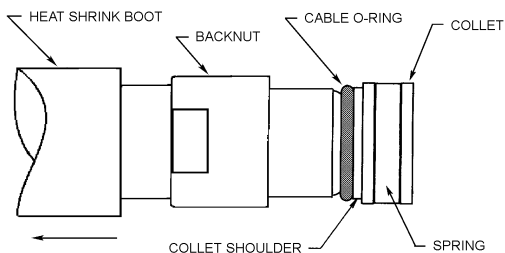

Figure 8.
9. Slide the heat shrink boot and connector backnut onto the cable and temporarily out of the way of connector assembly. See Figure 8.
10. Place the cable O-ring (smaller of the two O-rings) onto the cable outer conductor and position it in the corrugation groove nearest to the trimmed jacket as shown in Figure 8.
11. Assemble the two collet halves onto the cable outer conductor with the stepped side facing the trimmed jacket. Position the collet over the corrugation next to the cable O-ring. Secure with the collet spring. See Figure 8.